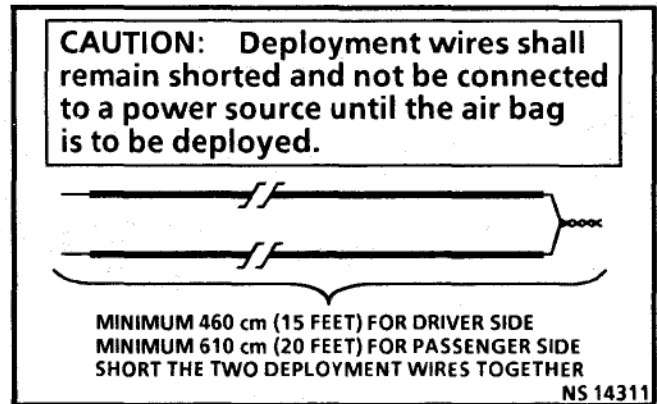

Figure 25 - Shorting the Deployment Wires
8. Short the wires by twisting together one end from each (Figure 25). Deployment wires shall remain shorted and not be connected to a power source until the air bag is to be deployed.
18. Short the wires by twisting together one end from each (Figure 25). Deployment wires shall remain shorted and not be connected to a power source until the air bag is to be deployed.